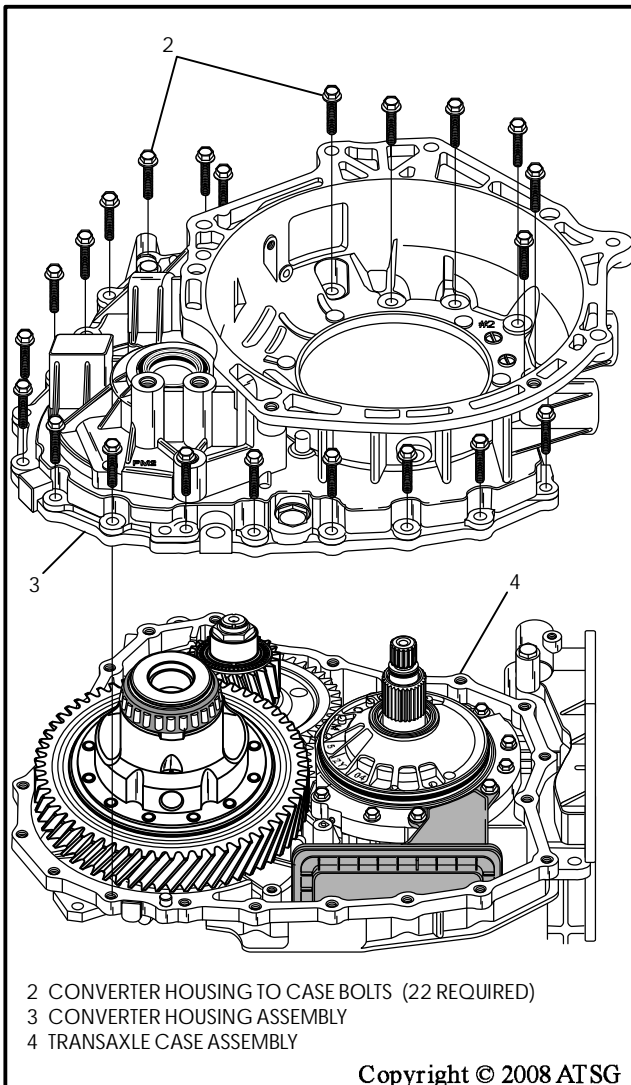

Figure 39
20. After the bolts are removed, tap on converter housing with a rubber mallet to loosen and remove converter housing from the case, as shown in Figure 39.